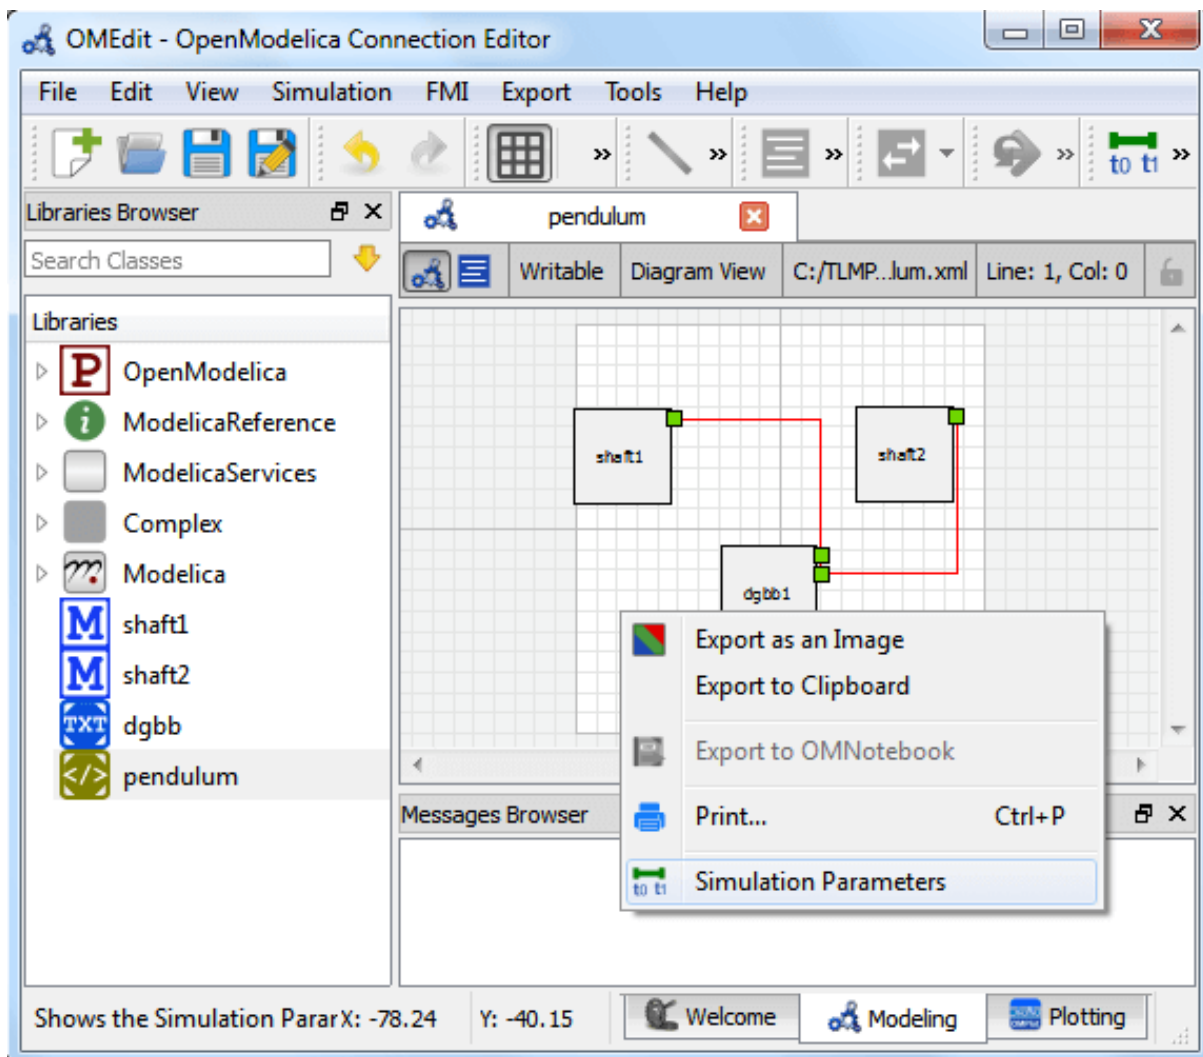

Figure 3.14: Changing Co-Simulation Parameters from the Popup Menu.
- Right click an empty location in the Diagram View of the MetaModel Widget and choose **Simulation Parameters** from the popup menu(see Figure 3.14)